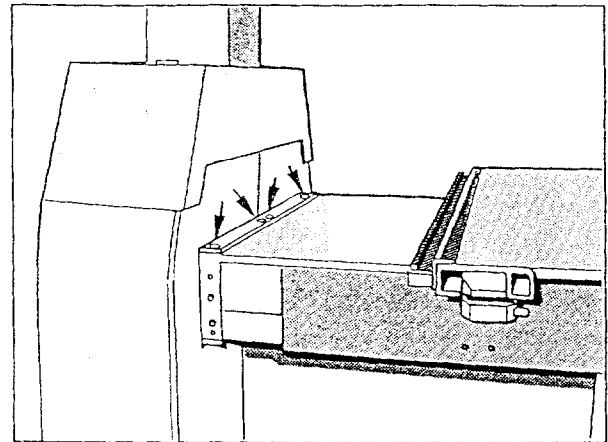

Fig. 2
- Loosen the cover screws (↘/Fig.2) at the end of the spotfilm device.